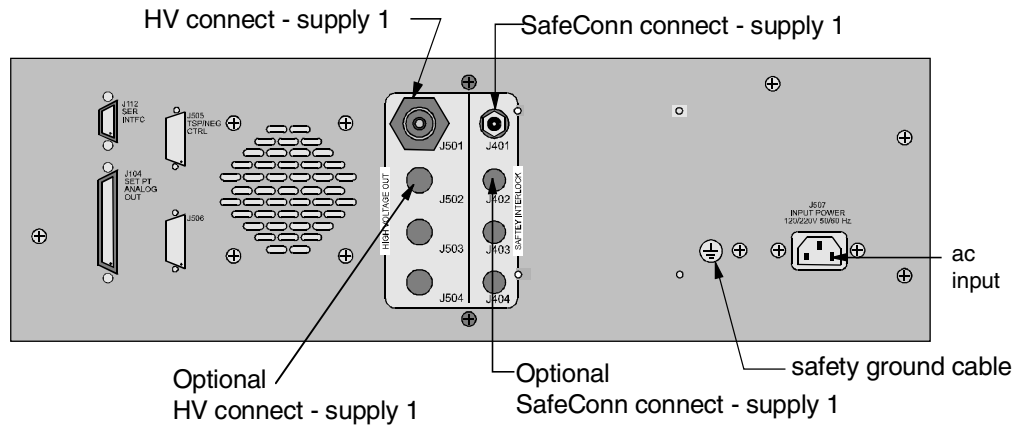

Figure 2-1. MPC Rear Panel HV and SAFECONN Connectors.
2. Connect the safety ground cable between the pump and safety ground stud at the DIGITEL rear panel (Figure 2-1).
3. Connect the high voltage cable to the ion pump and to the appropriate high voltage jack on the DIGITEL rear panel. See Figure 2-1 and Table 2-1.
4. If you have the optional SAFE-CONN feature, an additional connector is part of the HV connector. Connect it to the appropriate SAFE CONN jack. See Figure 2-1 and Table 2-1.